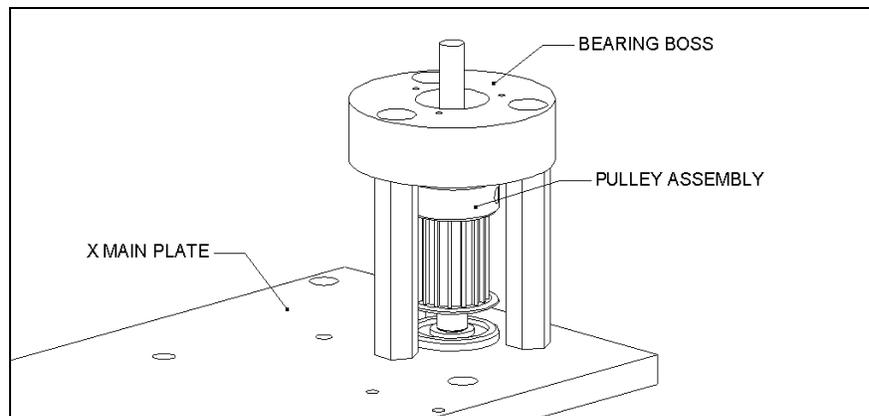

Figure 7-58 Bearing Boss X-Pulley
- 3 Remove the Bearing Boss (Part No. 2040003100) by removing the 3 M4 x 16 skt cap screws (Figure 7-58).